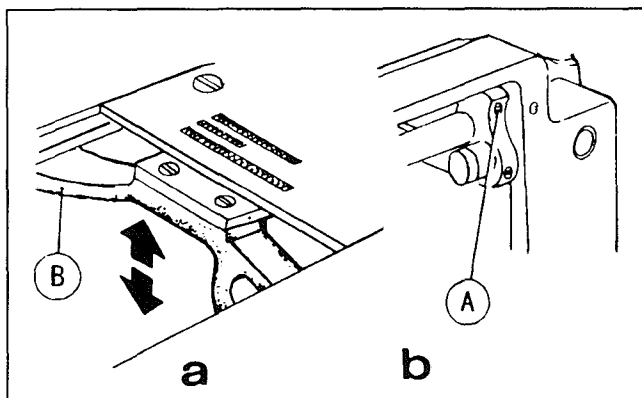

Fig. 22
18. ADJUST THE HEIGHT OF FEED DOG (Fig.22,23)
- 2) Loosen Screw (A) of feed lifting rock shaft crank right (See Fig.22,b)
- 3) Move Feed Bar (B) in the direction shown by the arrow in Fig. 22 (a) to adjust the height of the feed dog. The standard height of feed dog is that the top of feed dog is 0.8mm above Throat Plate Surface (B).
- 4) After the adjustment, be sure to tighten Screw (A).